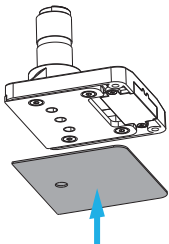

Figure 10
- Carefully apply the **Base Pad** to the bottom of the **Base Mount** to complete the **Grommet Base Assembly**. (Figure 10)